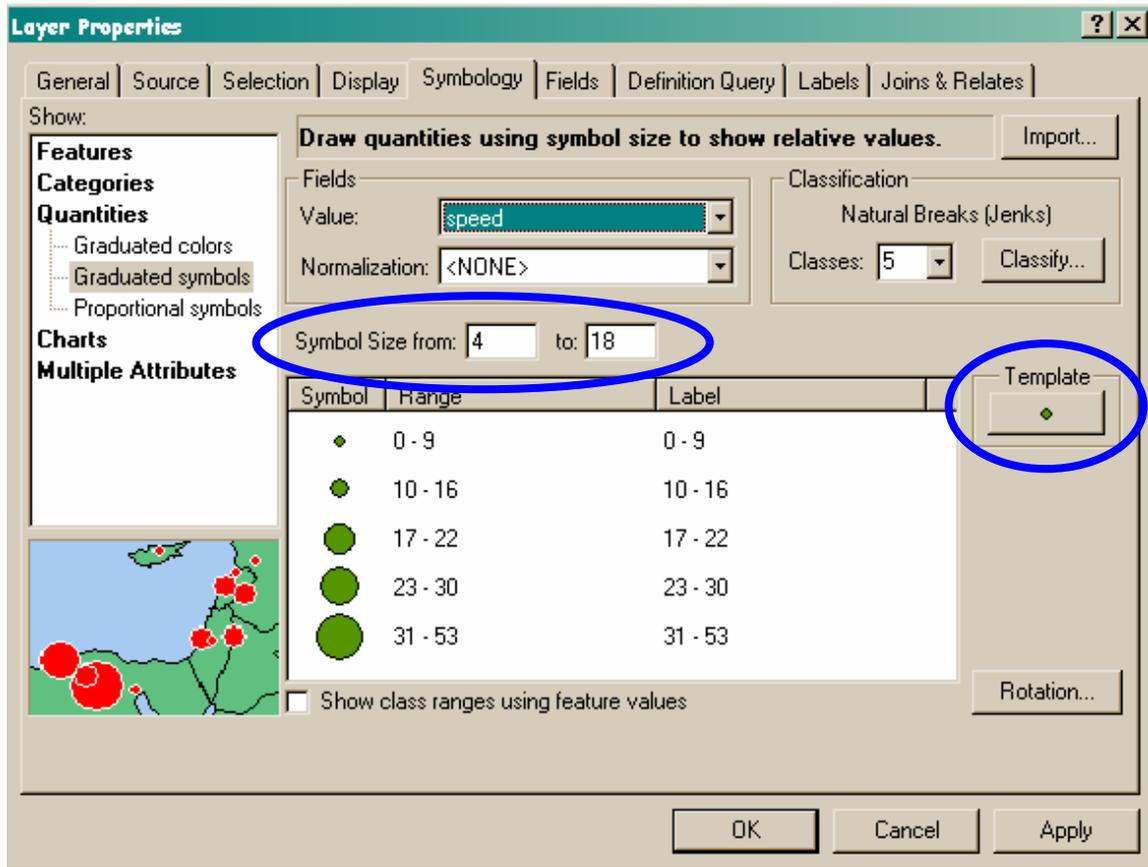

Figure 6. Changing the Symbol Size Range and choosing a new symbol set with arrows.
11. Selecting the display symbol and changing the **Symbol Size** (Figure 6). Enter a **Symbol Size** range (20 -30). Arrows are not in the default symbol sets, so to select an arrow to display you need to choose one of the symbol sets that have arrows in it. This is done by clicking on the **Template** button (Figure 6).